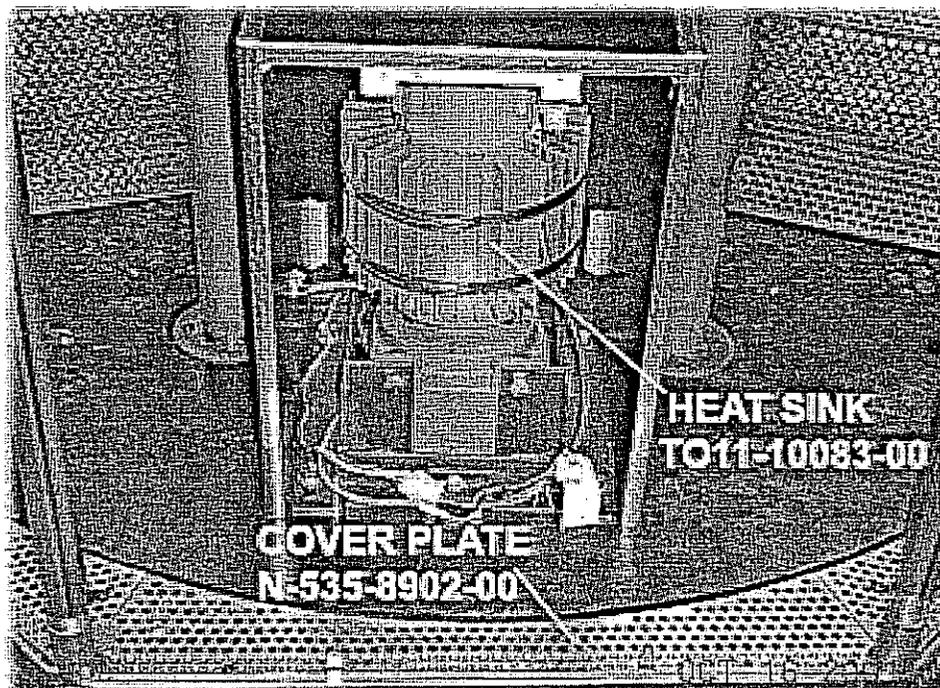

Figure 9
8. Install the motor box. (See figure 9). Place harness onto hook inside motor box. Install motor box cover, plugging in the fan harness.